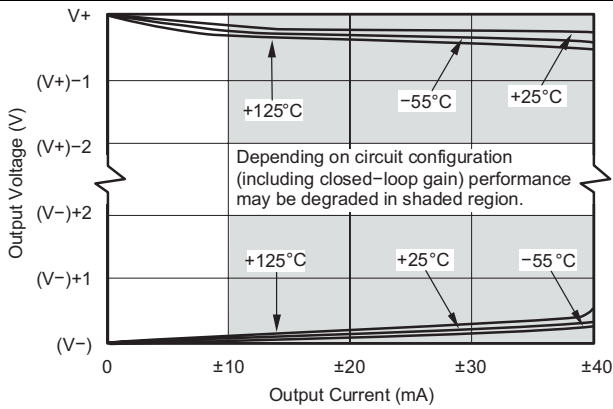
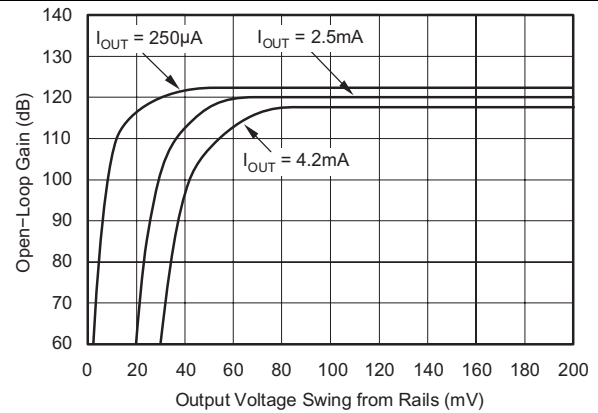

Figure 17. Output Voltage Swing vs Output Current
Figure 18. Open-Loop Gain vs Output Voltage Swing
- (4) Output voltage swings are measured between the output and power supply rails.
- (5) See Figure 17.
A class AB output stage with common-source transistors achieves rail-to-rail output. For light resistive loads (>10 kΩ), the output voltage swing is typically ten millivolts from the supply rails. With heavier resistive loads (600 Ω to 10 kΩ), the output can swing to within a few tens of millivolts from the supply rails and maintain high open-loop gain. See Figure 17 and Figure 18 for more information.